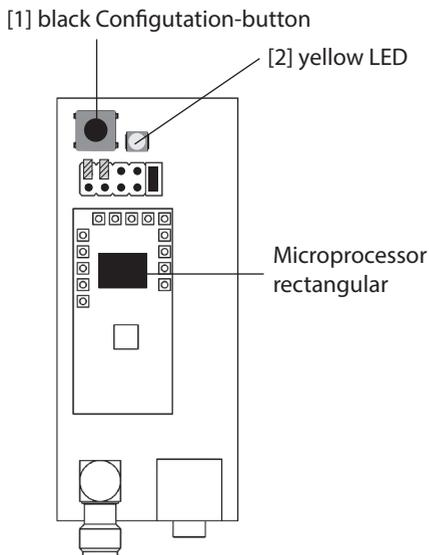

Fig. 5: PCB version 1 - Microprocessor rectangular, fixation above/below.
**Please note:** There are two versions of the PCB for the Radio remote V5 (see Figure 5 and 6). The Un-Pairing differs for the versions like described in the following.
### – PCB with rectangular Microprocessor (Fig. 5):